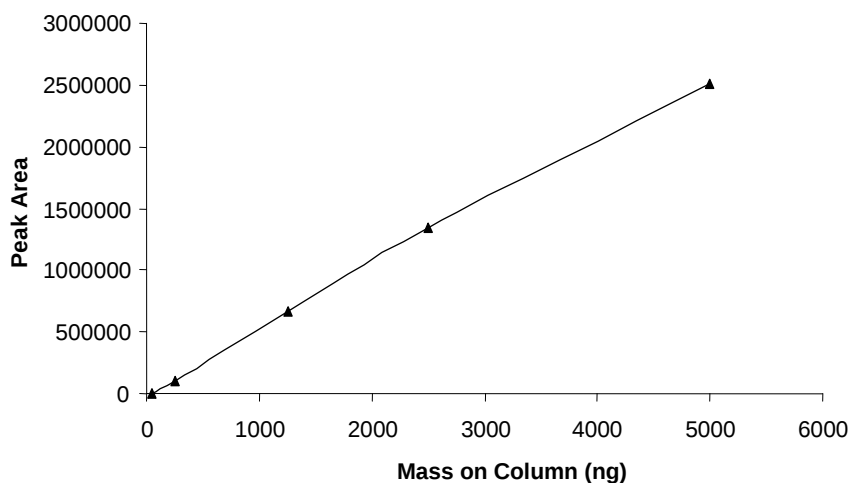

Figure 4-3: Typical Caffeine Standard Curve
- h) A standard curve can be generated from 0-5000ng caffeine using the standards provided. A typical standard curve is presented in Figure 4-3.